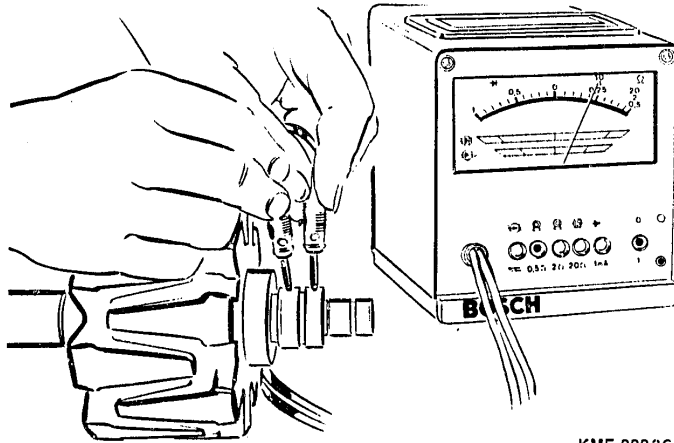

**Figure 20 Inner Bearing Race Removal**
1. With a universal bearing puller, remove the inner race of the endshield bearing. (Figure 20)